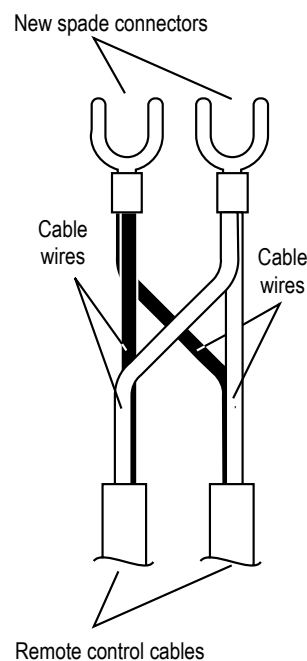

fig. 3
8. Cut the spade connectors from 2 of the controller cables to be connected to the appliance (4 spade connectors should be cut off) and discard. Connect the wires from these two cables and terminate into two new spade connectors as shown in fig.3. Spade connectors are available from your local electrical component retailer.
13. Cut the spade connectors from all four controller cables to be connected to the appliance (8 spade connectors should be cut off) and discard. Connect the wires from two cables and terminate into two new spade connectors as shown in (fig. 3).